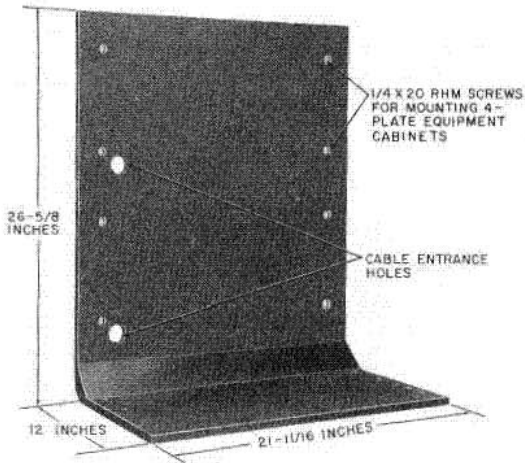

Fig. 29—Floor Stand per ED-91296-70
6.02 The floor stand per ED-91296-70† (Fig. 29) is a metal stand for mounting two 4-plate apparatus cabinets, one over the other.